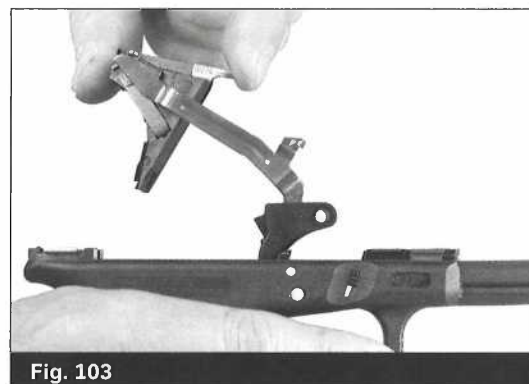

Fig. 103
- Install the trigger assembly into the frame with the trigger pad first. (Fig. 103)